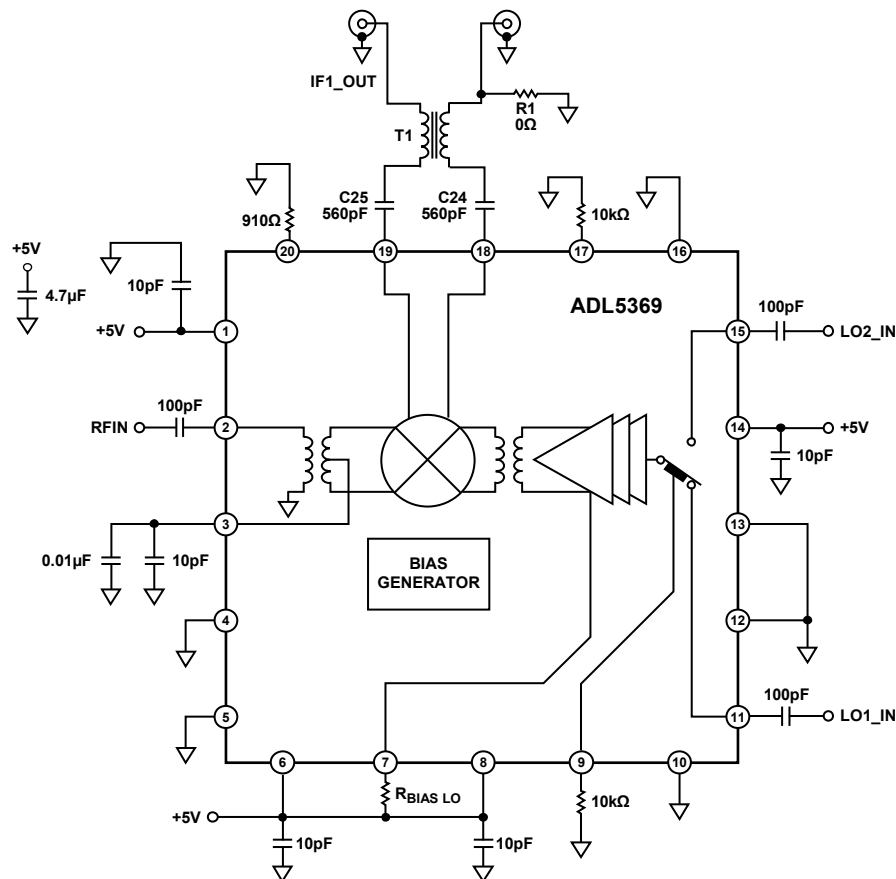

Figure 45. Typical Application Circuit
The ADL5369 mixer is designed to upconvert or downconvert between radio frequencies (RF) from 300 MHz to 1100 MHz and intermediate frequencies (IF) from 30 MHz to 450 MHz. Figure 45 depicts the basic connections of the mixer. It is recommended to ac-couple the RF and LO input ports to prevent non-zero dc voltages from damaging the RF balun or LO input circuit. The RFIN capacitor value of 8 pF is recommended to provide the optimized RF input return loss for the desired frequency band.